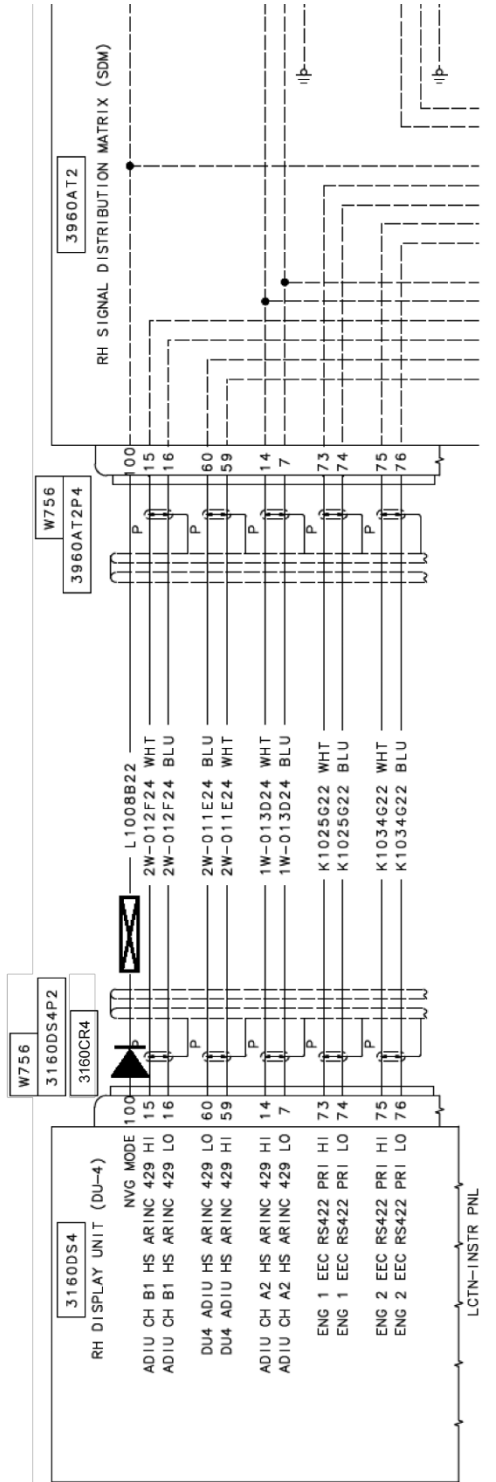

FIGURE 4 – DU-4, 3160DS4P2
18. Repeat step 4 to step 15 for wire L1008B22 for the pilot DU connector 3160DS4P2 using diode assembly 3160CR4 P/N 30-251-71AA and ident tubing identified with 3160CR4. Refer to the wiring diagram in Figure 4.